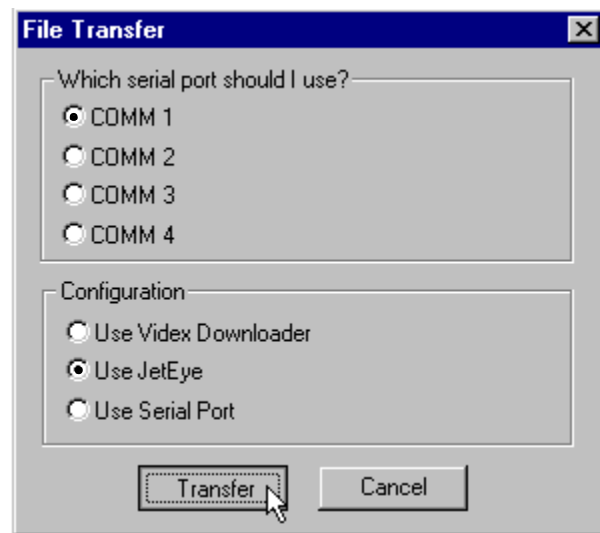

Figure 1-12 File Transfer Window
12. Click **Transfer** (Figure 1-12).